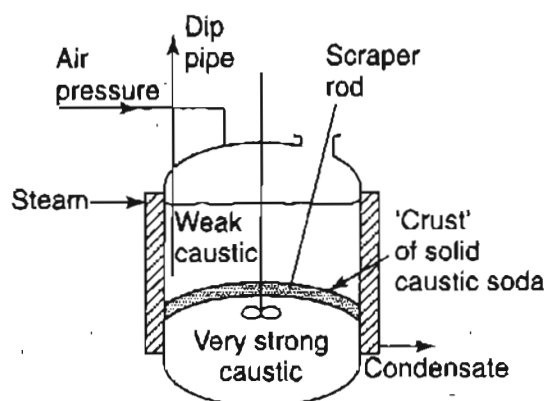

Figure TP28.2-1
1. An example of an accident occurred in a tank as shown in Figure TP28.2-1. A problem occurred in discharging the NaOH (caustic) solution by air pressure because the end of the dip pipe was broken. The manhole cover was removed, and a scraper rod was lowered into the liquid to remove the broken part of the dip pipe. An immediate explosion occurred that shot NaOH solution 30 feet into the air, killing one man. What was the cause of the explosion?